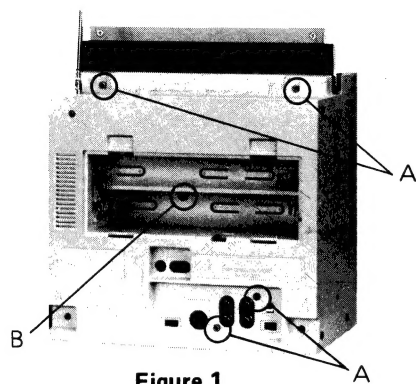

Figure 1
1. Remove the four screws(A) and the one (B) in the battery box from the rear cabinet. (See figure 1.)